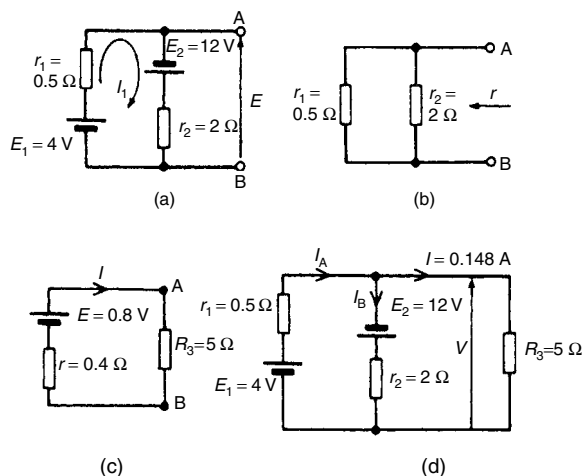

Figure 13.43
- (i) The $5\ \Omega$ resistance is removed from the circuit as shown in Fig. 13.43(a)
- (iii) Removing the sources of e.m.f. gives the circuit shown in Fig. 13.43(b), from which resistance
- (iv) The equivalent Thévenin's circuit is shown in Fig. 13.43(c), from which, current
From Fig. 13.43(d),
Also from Fig. 13.43(d),
[Check, from Fig. 13.43(d), $I_A = I_B + I$, correct to 2 significant figures by Kirchhoff's current law]